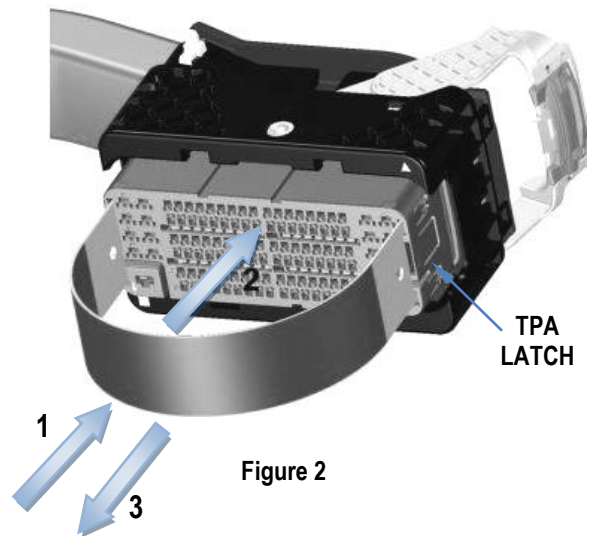

Figure 2
2. While keeping the extractor tool in this position pull down on the (TPA) secondary lock. See Figure 2.